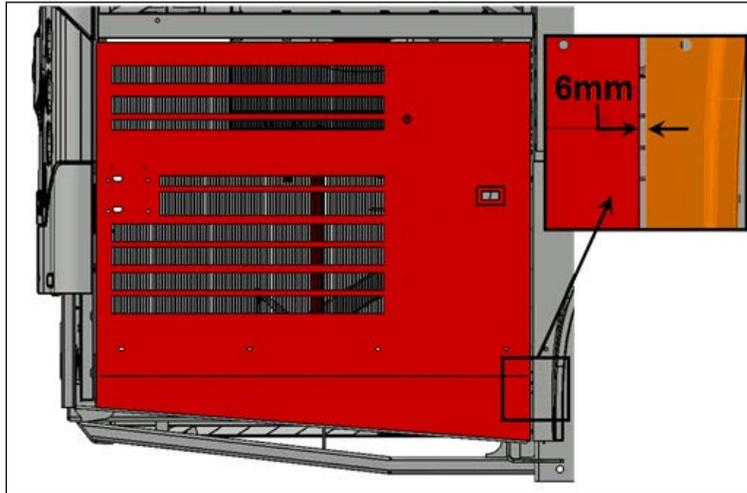

FIGURE 8
7. Check the gap between the door and the adjacent panel at the level of the lower attachment point of the arm on the door. The gap should be $\frac{1}{4}$ " (6 mm) (FIGURE 8).